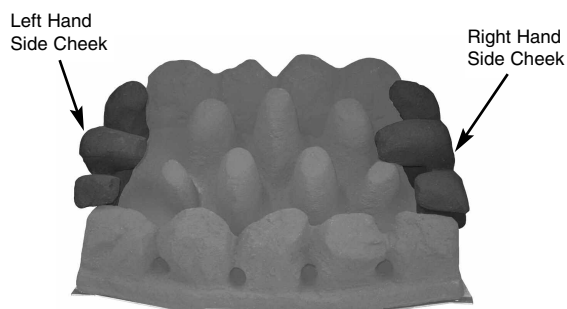

Fig. 18
4. Place the side cheeks into position, making sure they are positioned either side of the fuel bed and the overhang is at the front. The outside edge should be in contact with the radiant box ceramic liner. Ensure that the lower part of the side cheeks sit on the front coal and are in front of the rear coal (Fig. 18).